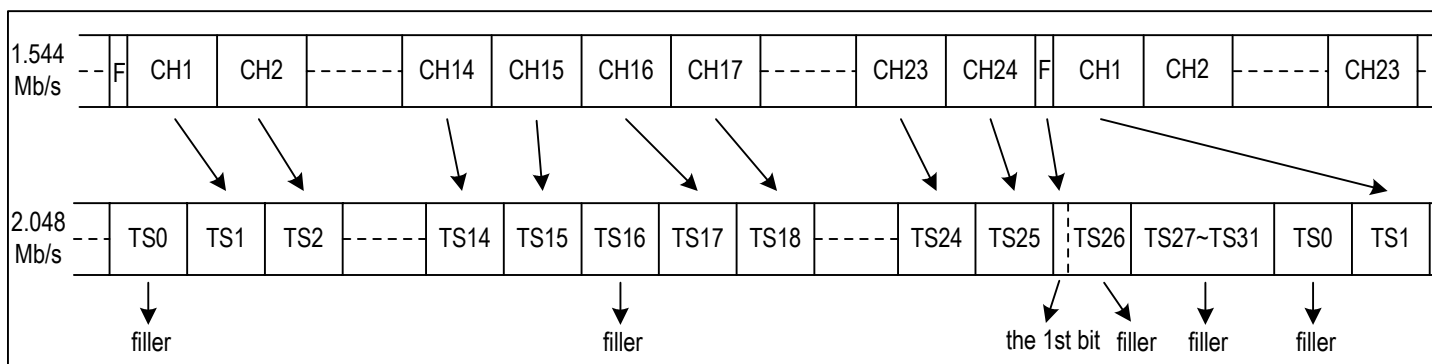

Figure 17. T1/J1 To E1 Format Mapping - G.802 Mode
1. T1/J1 Mode E1 Rate per G.802 (refer to Figure 17): Channel 1 to Channel 15 of Frame N from the device are converted into TS1 to TS15 of Frame N on the system side; Channel 16 to Channel 24 of Frame N from the device are converted into TS17 to TS25 of Frame N on the sys-